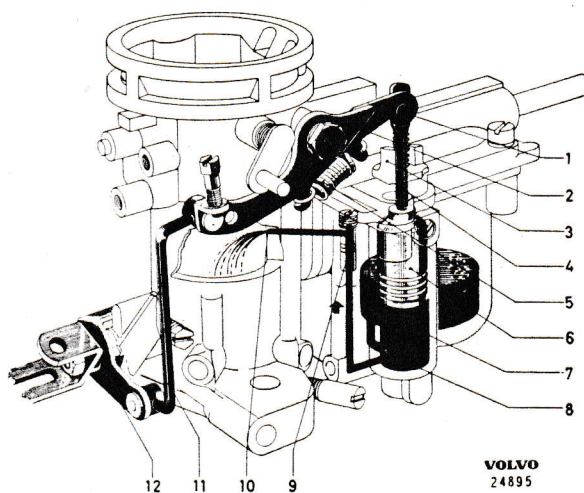

Fig. 13. Acceleration pump
The pump plunger (6), Fig. 13, located in a cylinder integral with the side of the float bowl, is actuated when being pressed down by a lever with a spring-loaded joint. The pump plunger stroke can thus easily be varied by turning a washer with a cam (3), whereby the forward part of the lever is stopped by a check, higher or lower depending upon the position of the washer. The last part of the rear lever section has its movement taken up by the spring (5) and the joint.